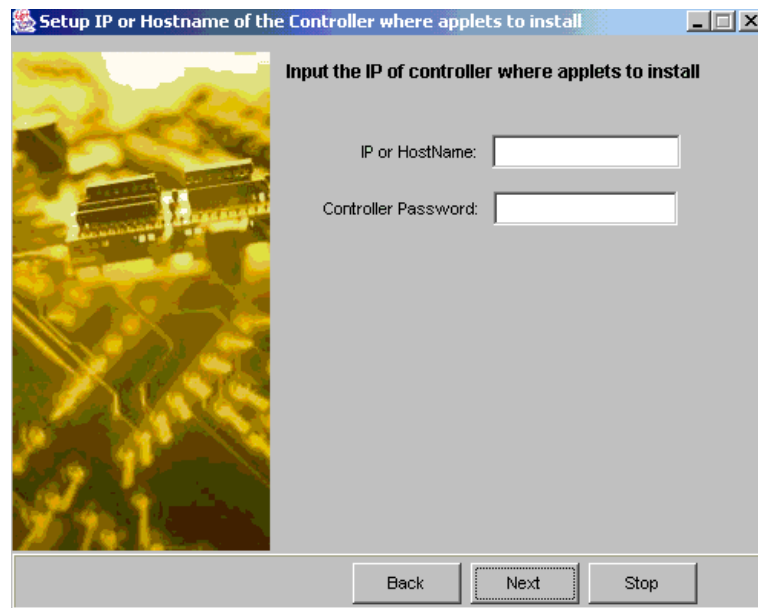

Figure 2-10: Input IP and Controller Password
Step 1. As shown in *Figure 2-10* above, enter the IP address or the host name of the controller/subsystem and the controller password in their respective fields. The default for the controller/subsystem IP or password is blank. The preset IP and password should have been configured along with other configuration utilities before proceeding with RAIDWatch installation.
Step 4. If you wish to immediately access the RAIDWatch manager, open a web browser and type in the IP address that you used in *Figure 2-10*.
where **www.xxx.yyy.zzz** is the IP address entered in *Figure 2-10*.